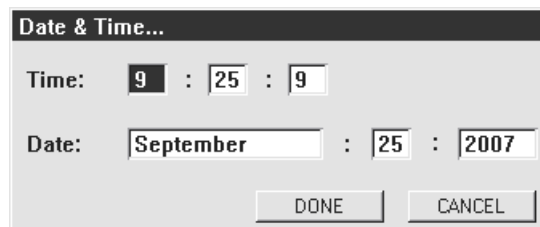

Figure 31: Date & Time dialog
- 4 Press the rotary control knob a second time to open the Date & Time dialog (Figure 31 below).